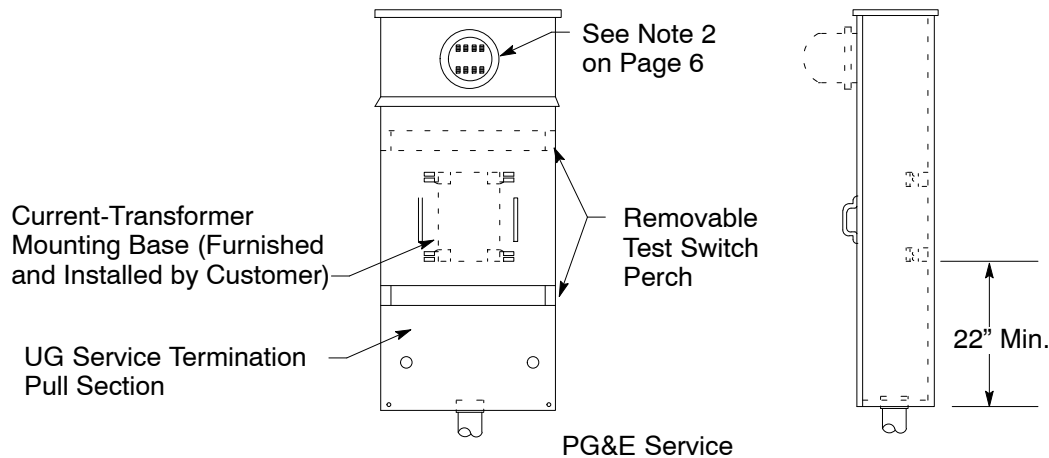

Figure 8
1	Underground Pull Box (see Figure 8 on Page 7)
5. Figure 8 is applicable to wall-mounted, termination enclosures with a maximum rating of 400 amps. Larger termination equipment (600 amps, three-phase) must be pad-mounted.